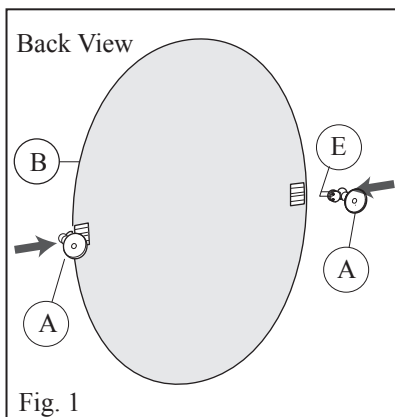

Fig. 1
1. Slide on left and right pivoting brackets (A) to the oval mirror (B) at the mounting plate. Tighten mirror bracket set screws (E) firmly by hand using a Philip head screwdriver. (Fig. 1)